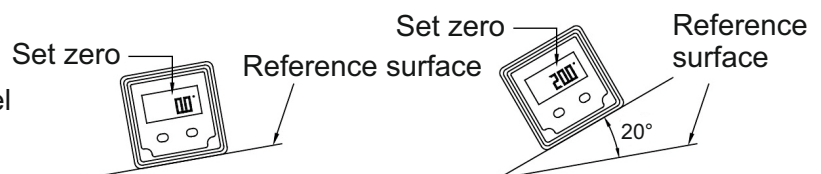

Fig.3
- » Move the instrument to the measurement surface, the displayed value will be the angle between the measurement surface and the reference surface (Fig. 3).